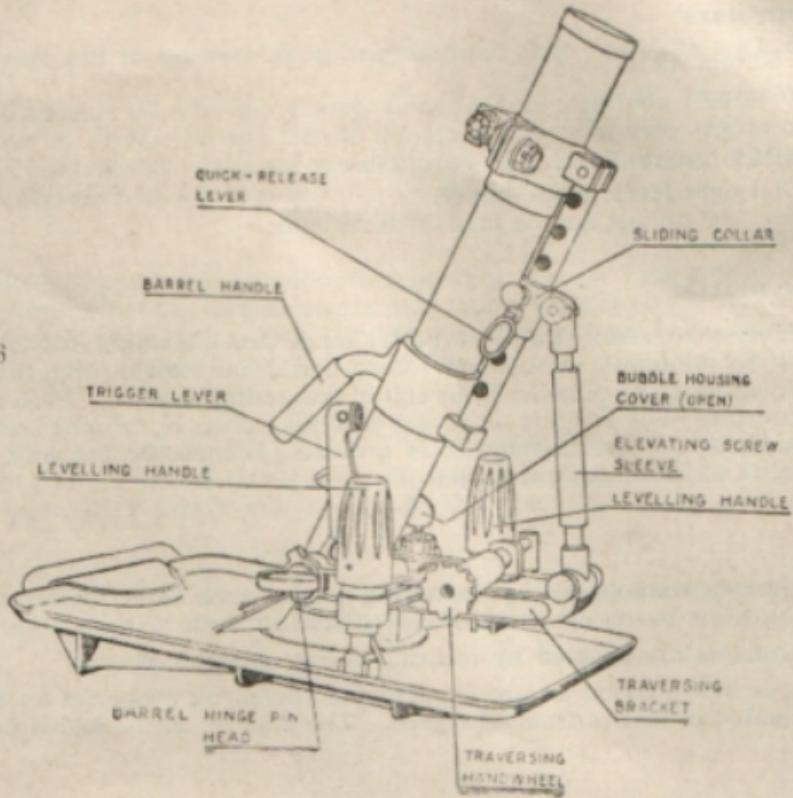

FIG. 24.—
38. 5 cm. Light Mortar 56. (See Fig. 24)